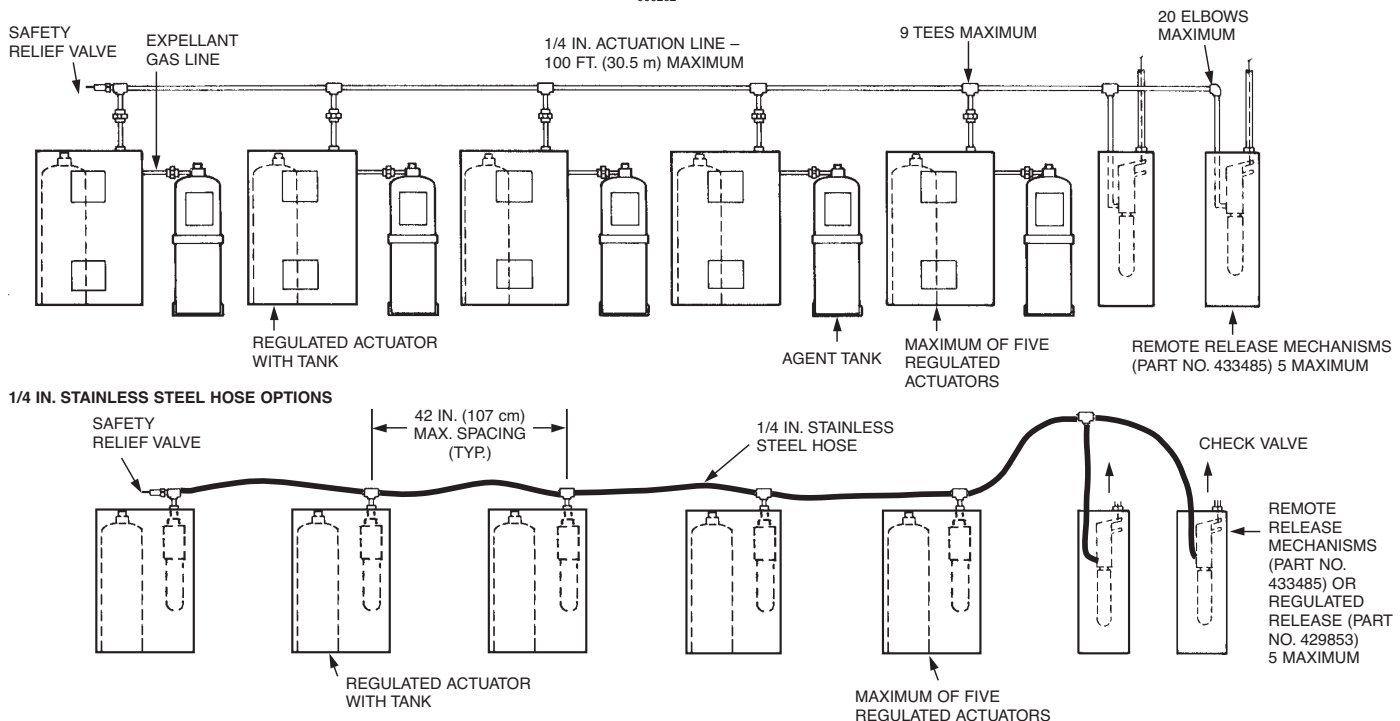

FIGURE 82
3. A combined total of 20 elbows and 9 tees may be used in these lines. Two 45° elbows equal one 90° elbow. See Figure 82.